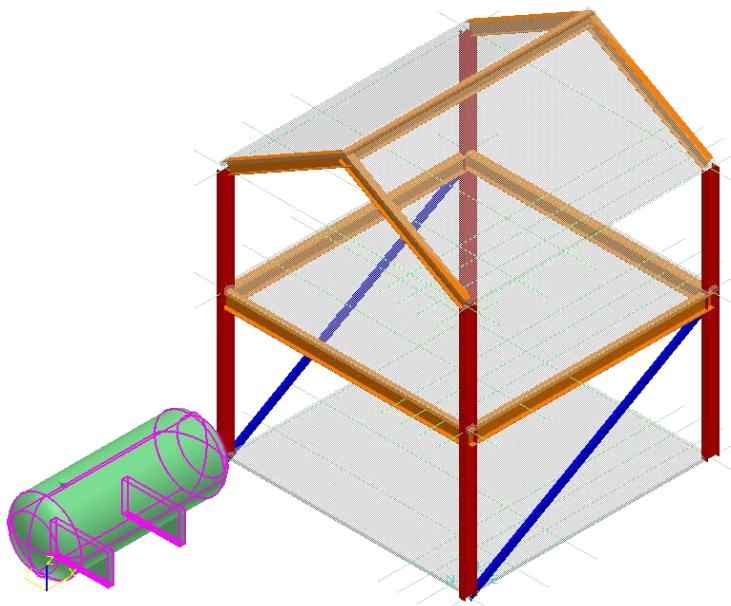

Figure 2. 21: Placed and Selected Equipment
11. Click in the graphic view to place the equipment. Your view should resemble Figure 2. 21.